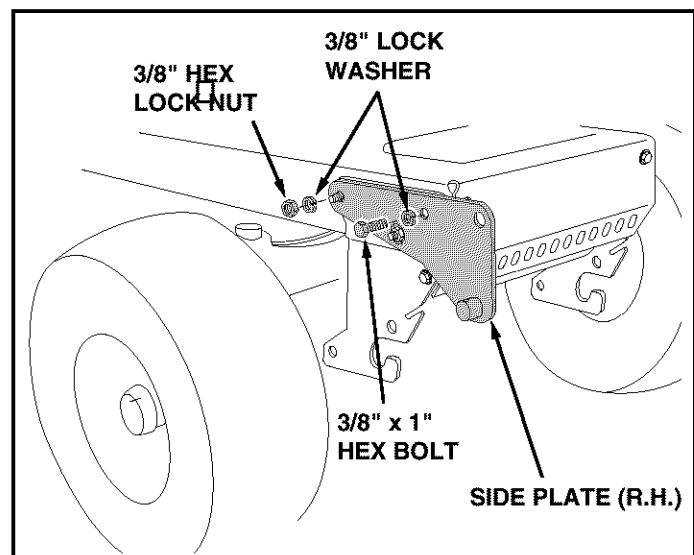

FIGURE 2 RIGHT SIDE VIEW
- Attach the rear of the R.H. side plate to the tractor using the original carriage bolt and a new 3/8" lock washer and 3/8" lock nut. Attach the front of the side plate to the threaded hole in the tractor frame using a 3/8" x 1" hex bolt and a 3/8" lock washer. Repeat for the L.H. side. See figure 2.